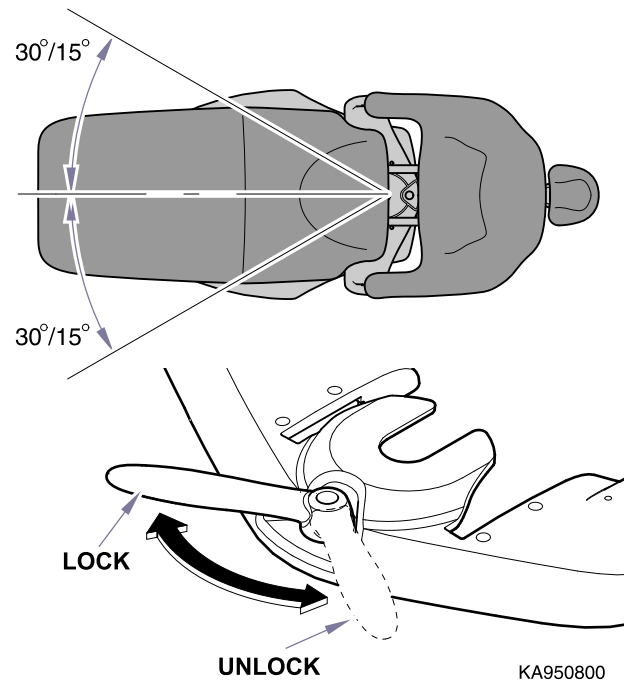

Figure 2-3. Rotational Lock
- (12) Loosen Rotation Lock lever and rotate chair top until it hits a stop. Then rotate chair top in opposite direction until it hits a stop. (Refer to Fig. 2-3).